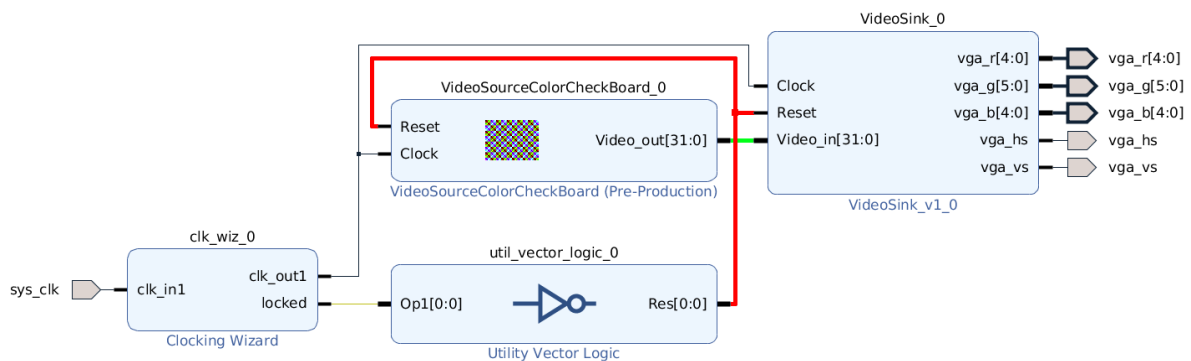

Figure 15: Vivado block design for the CCB test design
The Vivado tool needs IPBs for stitching them together into a system design from which a bit file can be derived. In this lab, a system design is represented by a *block design* in Vivado, e.g., as depicted in Figure 15. Vivado sources IPBs from Intellectual Property (IP) repositories. On
Next, you can examine the block design in Figures 15 and 26. As can be seen, the block design has inputs and outputs (marked with red boxes). Thus, information needs to be provided how these inputs and outputs should be connected to the Zybo board. Consulting the user guide *~/03_filter/documentation/ZYBO_RM_B_V6.pdf* for the Zybo board, we find following pertinent information duplicated in Figures 27 and 28.